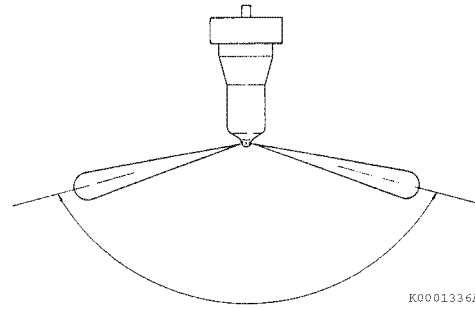
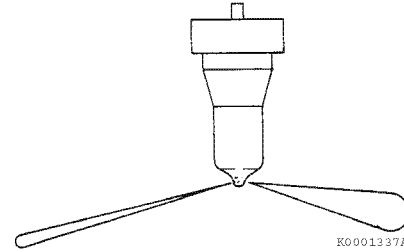

Figure 7-30
Figure 7-31
- Pump the operating lever more rapidly to repeatedly “pop” the injector and observe the spray pattern. The pattern should be a very fine uniform spray (**Figure 7-30**). If a dripping or an uneven pattern is seen (**Figure 7-31**), service or replace the injector.